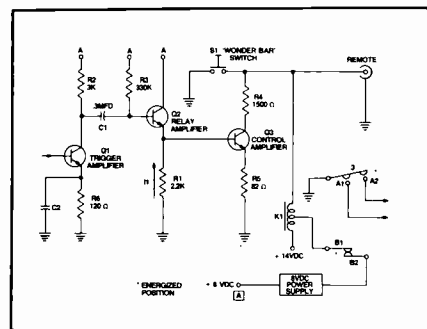

Fig. 1—DC amplifier circuit employed to control the radio signal seeker function.
■ Shown in Fig. 1 is the DC amplifier used to control the signal seeker. Relay K1 is the same relay used to control the paddle wheel in the governor gear train and S1 is the actuate switch operated by depressing the "Wonder Bar" on the radio front panel. When the customer presses the bar, switch S1 closes and allows current to flow through the coil of relay K1. Three functions occur when the relay is energized. Contacts A1 and A2 are closed, the tang is removed from the paddle of the governor allowing mechanical action to commence, and contacts B1 and B2 are closed. This latter set of contacts turns on a special regulated power supply for the DC control amplifier. When the 8 VDC supply is activated, relay amplifier transistor, Q2, will become forward biased and will conduct current. This current causes a voltage drop across resistor R1 which is great enough to forward bias control amplifier transistor Q3. When Q3 begins to conduct, it will pass enough current to keep the relay energized, even though switch S1 is no longer closed. Normally, the customer's finger will keep the *Wonder Bar* depressed long enough for Q2 and Q3 to turn on (there is a time constant to all such circuits), and take over the relay holding function. Stopping of the signal seeker merely requires transistor Q2 to be cut off.
This signal action creates two currents, labeled I1 and I2, the sum of which forms an additional bias sufficient to turn Q1 on. This causes the collector potential of Q1 to drop suddenly to ground. Referring back to Fig. 1, we see the Q1 collector circuitry in detail. Capacitor C1 is charged through collector resistor R2, and pull-up resistor R3. When a signal appears in the AM IF amplifier stage, it causes trigger amplifier Q1 to saturate and this forces C1 to discharge. By dragging the collector end of C1 rapidly to ground, we will generate a large negative-going pulse across resistor R3, turning off relay amplifier Q2 and, in turn, control amplifier Q3.
Fig. 1 represents typical radiation patterns with quarter-wave whips installed in various locations on a vehicle. No attempt is made to show all major lobes or nulls, rather the idea is to show where the *best* direction of transmission (and reception) would occur with a specific antenna location.
whip mounted in the center of the vehicle's roof (Fig. 1-A) provides a more or less omnidirectional signal with slight nulls on either side. Of course, the antenna radiates (theoretically at least) equally at all azimuth angles. The nulls are caused by the antenna's radiation at higher, and thus unuseful, angles in the azimuths without adequate ground plane
Fig. 1—Radiation Patterns produced with quarter-wave whips installed in various locations on a vehicle. A) Radiation pattern produced with whip mounted in the center of the vehicle's roof, providing an omnidirectional signal with slight nulls on either side. B) Pattern produced with antenna mounted on the left rear quarter-panel. C) The same pattern as 1-B, except that it is slightly more directional, with antenna mounted on the bumper of the vehicle. D) Pattern produced with the installation of "co-phased" or parallel-fed antennas. The drawing illustrates the phenomenon known as a "broadside pattern". Both antennas are mounted on the bumper. E) Pattern produced by mounting two shorter antennas high and clear of the vehicle's roof. F & G) Twin antennas connected out of phase producing an "end-fire pattern." (X) Lagging (-90 degree) antennas. Relative field strength measured at horizon (0 degree radiation L) (Patterns not to scale).